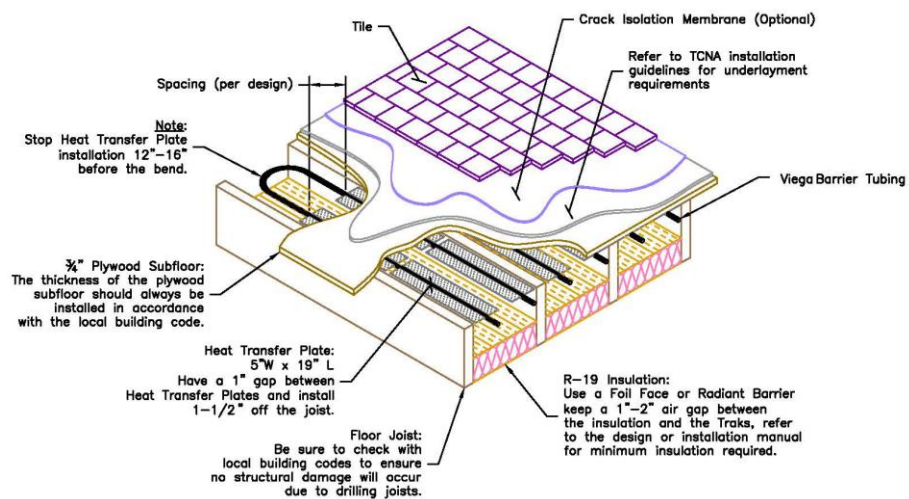

Figure 4 Heat Transfer Plate – In-Joist
**Heat Transfer Plate:** Heat transfer plates are a light gauge, preformed aluminum plate compatible with 3/8" (9.5 mm) or 1/2" (12.7 mm) Viega Barrier tubing depending on the model. When the tubing is located between the joists beneath a wood-framed floor, aluminum heat-emission plates can be installed over the tubing. The tubing is inserted into the plates with a bead of approved silicone sealant (e.g. Viega Groove Tube heat transfer adhesive). The plates are then stapled to the underside of the wood subfloor and insulation is installed beneath the aluminum plates Trak in the joist cavity leaving a 1-2" space between the insulation and the plates. See Figure 4.